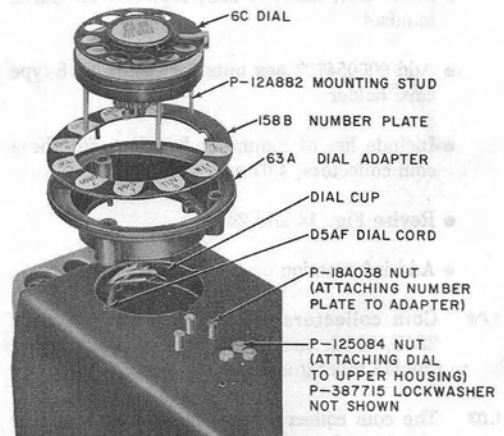

Fig. 7—Assembly of 6-Type Dial
2.08 All reconditioned dial coin collectors are equipped with a 6-type rotary dial. The assembly of a 6-type dial is shown in Fig. 7. The apparatus and parts associated with a 5-type dial are not interchangeable with those used with a 6-type dial.